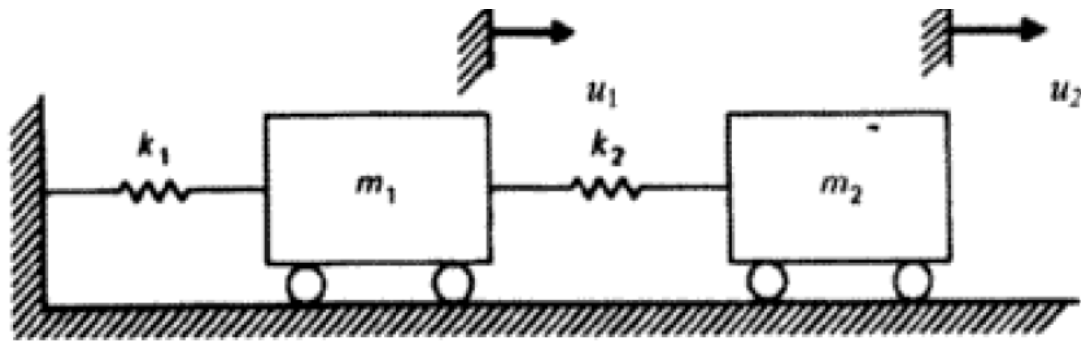

Fig.4.
15. a) Briefly explain how a periodic loading can be expressed as an infinite series of harmonic functions using Fourier theorem. (4)
b) A single bay single storey portal frame with the following properties is subjected to a ground acceleration history that can be idealized as $0.5 \sin(15t)$. find the peak steady state amplitude of floor vibration and column shear if the floor mass is 4540 kg and 2013 kN/m. (10)
16. a) Write short notes on the following (i) Pseudo acceleration (ii) DVA spectrum (4)
b) Setup the equations of motion for the 2 DOF system shown in Fig.4. and hence estimate its natural frequencies. Following data may be utilized. $m_1 = m_2 = M$; and $k_1 = k_2 = K$. (10)